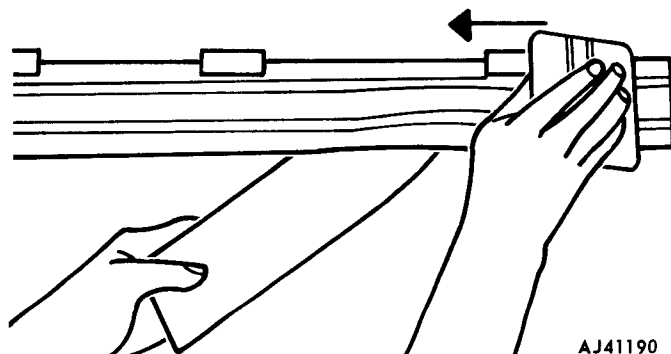

Fig. 20-7 Installing Decal with Squeegee
(11) Swing decal back down to aligned position. Squeegee decal to panel using firm strokes while removing remainder of paper backing (fig. 20-7).